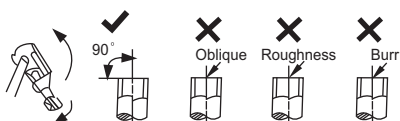

Fig. 25 — Cut the pipe
- Cut the pipe, with a pipe cutter, at 90 degrees (see Fig. 25).